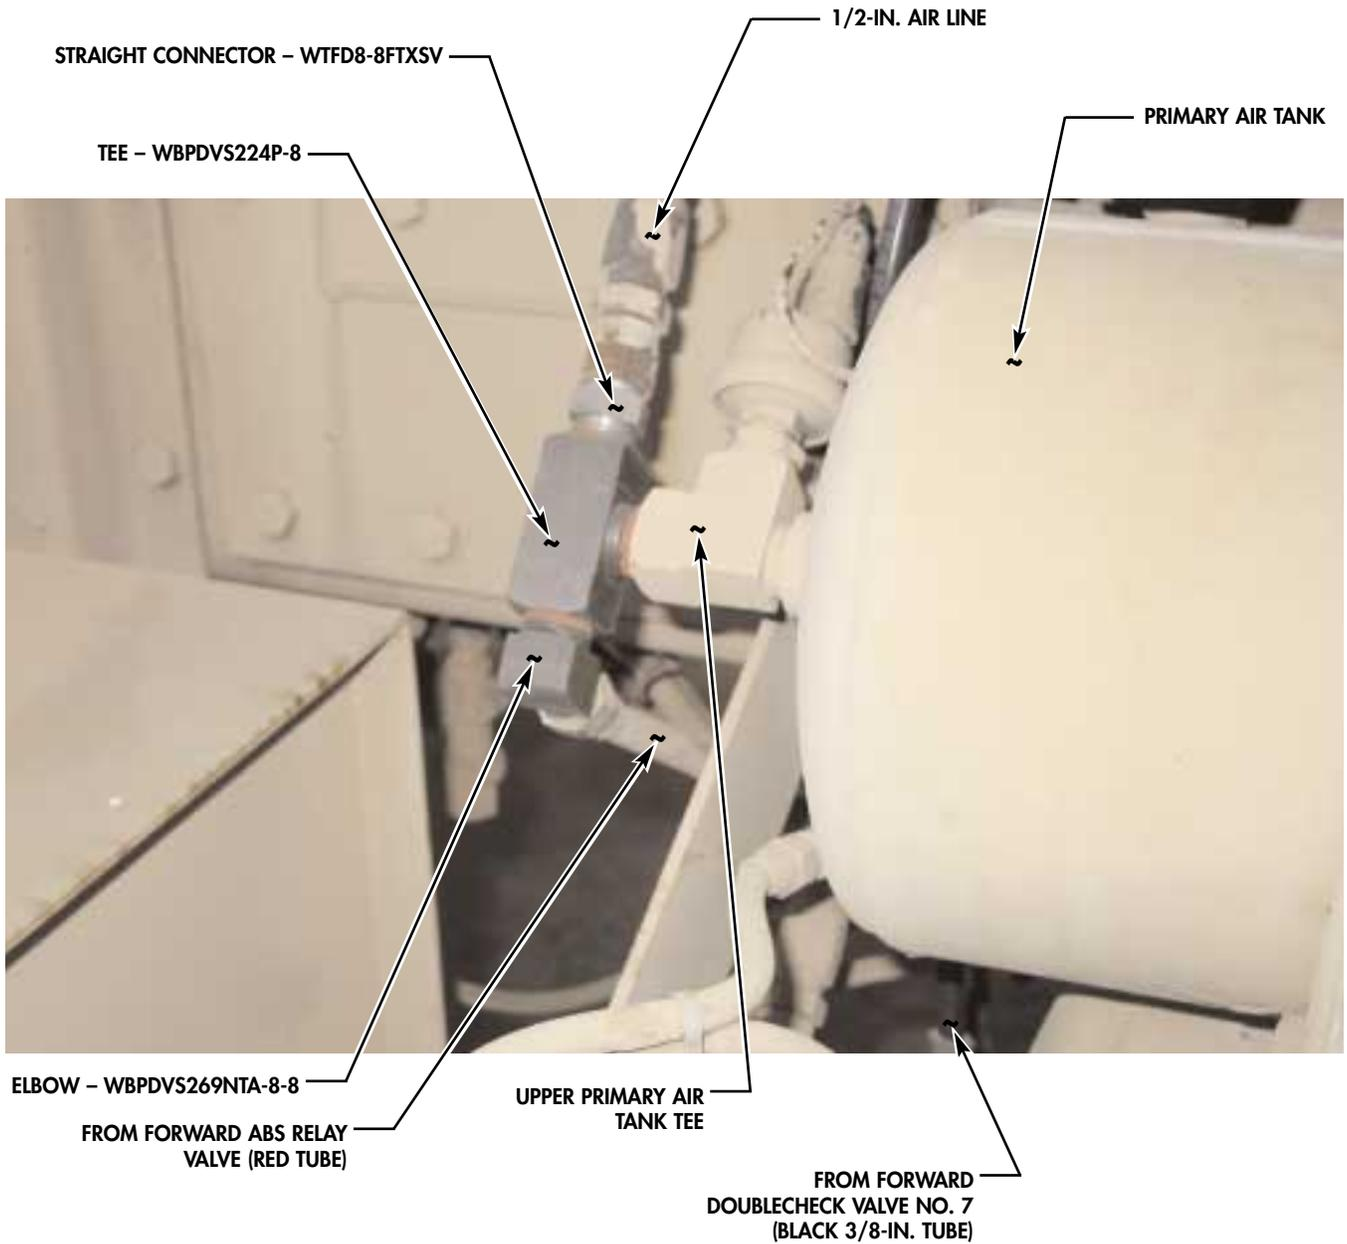

FIGURE 2. CORRECT (VIEWED FROM TOP)
- For all M939A2 models, all wrecker models, and all cargo trucks with extra-long wheelbase, refer to figure 2 for correct installation on vehicle.
c. Install elbow WBPDVS269NTA-8-8, straight connector WTFD8-8FTXSV, and tee WBPDVS224P-8 onto upper primary air tank tee as shown in figure 2.
d. Connect 1/2-in. air line to straight connector WTFD8-8FTXSV and connect red tube to elbow WBPDVS269NTA-8-8 as shown in figure 2.